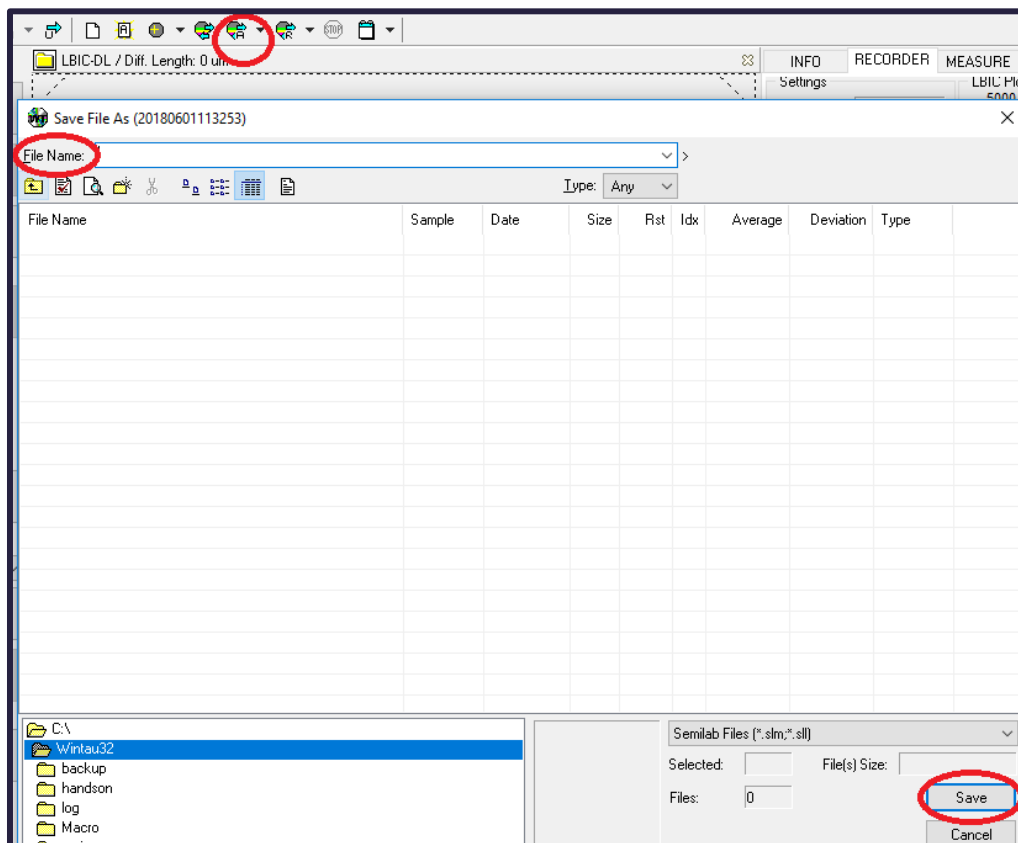

Figure. 15
15. Start the measurement by clicking on the “MAP” tab. (Figure. 15)
**Set the measurement path in your respective folder in “USER DATA” folder in C:drive where you want to save the generated “.slf” file. Once the measurement path is saved, the measurement starts automatically. (Fig. 15)**